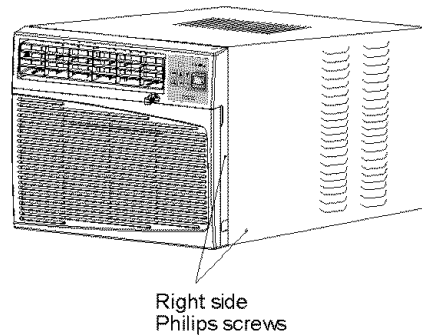

Fig. 6 – Screw Removal
- Remove total of (4) Philips screws securing the chassis to the cabinet. There are (2) screws on each side. The set of screws closest to the front of the unit secure the front panel to the cabinet. The set of screw closest to the rear of the unit secure the cabinet to the chassis (see Fig. 6).
- B. Secure the front grille to the cabinet using the Philips screws removed earlier (see Fig. 6).